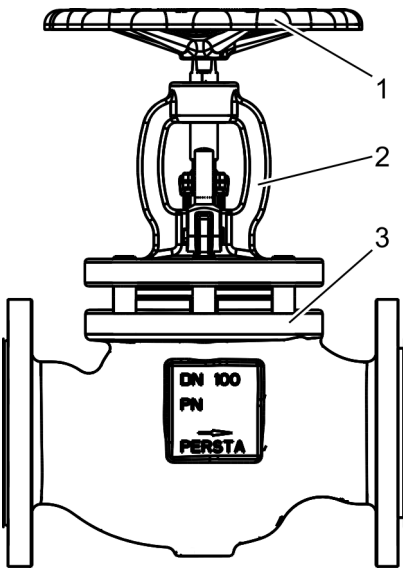

Fig. 27: Turning the handwheel
6. ▶ Turn the handwheel (Fig. 27/1) in the closing direction ("Shut").
- ⇒ The bonnet (Fig. 27/2) is lifted off of the body (Fig. 27/3).
7. ▶ Position two spacers of the same height opposite each other between the body (Fig. 27/3) and the bonnet (Fig. 27/2).
8. ▶ Turn the handwheel (Fig. 27/1) in the opening direction ("Open").
- ⇒ The bonnet (Fig. 27/2) is lowered onto the spacers.
9. ▶ Ensure that the bonnet (Fig. 27/2) rests on the spacers parallel to the body (Fig. 27/3).
10. ▶ Turn the handwheel (Fig. 27/1) in the opening direction.